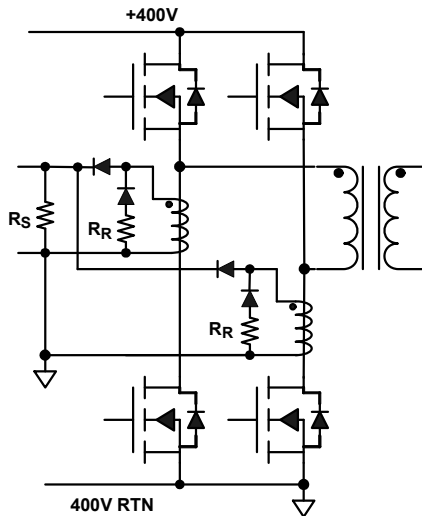

FIGURE 18. PLACEMENT OF TWO CURRENT SENSING TRANSFORMERS
1. Figure 18 illustrates the placements of two current sensing transformers, one on each drain leg of the bottom FETs.